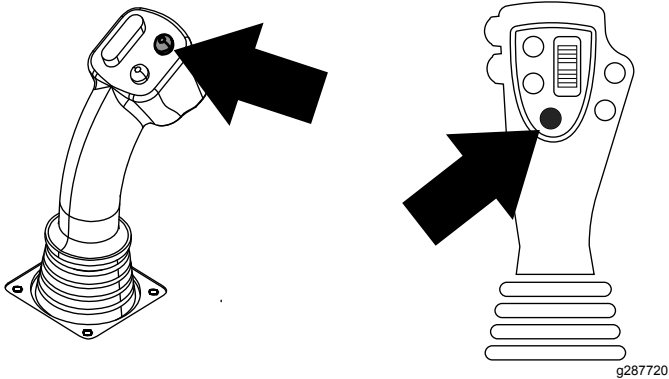

Figure 18
6. Hold the lower left button on the 8-button joystick or the upper button on the 4-button joystick to grip the pipe (Figure 18) and Figure 19) and release the button.